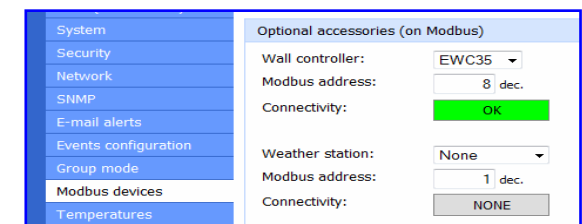

Figure 7
7. Open SETUP menu of Online Controller (via web browser, for detailed instruction, please read the Quick Start manual of the Online Controller). At Modbus devices setup page (Figure 7) choose EWC35 from Wall controller selection box and insert Modbus address 8. Confirm your selection with the **Set** button.
8. Check the connectivity status; if connection is established, the 'OK' will be displayed with a green background (see Figure 7).